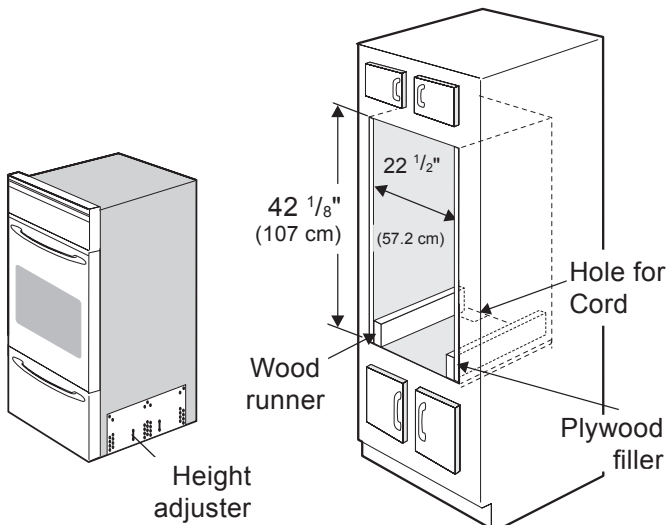

Figure 4
- If height opening is at 42-1/8", lower height adjuster 1" (see section 4) and secure two 2" X 4" X 22" wood runners on each side at bottom of opening (see Figure 4).